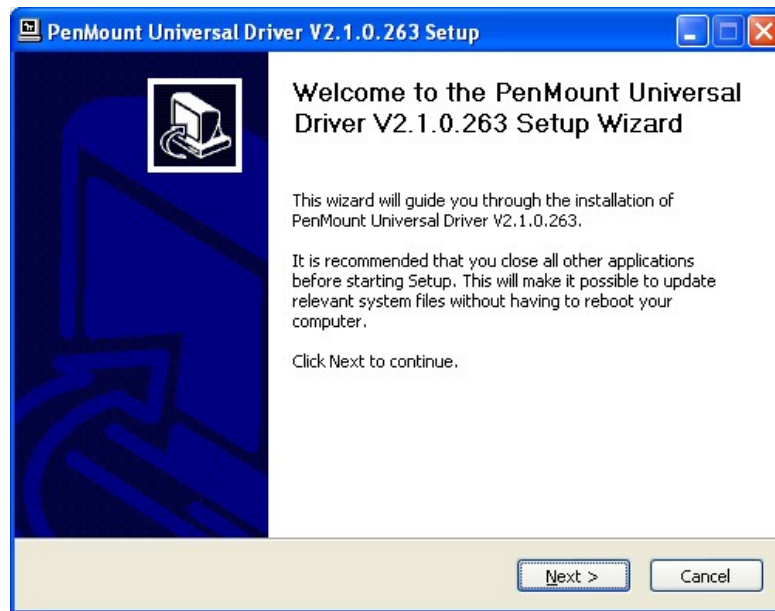

Figure 7-17: Touch Screen Driver Welcome Screen
Step 4: A **Welcome Screen** appears (**Figure 7-17**).